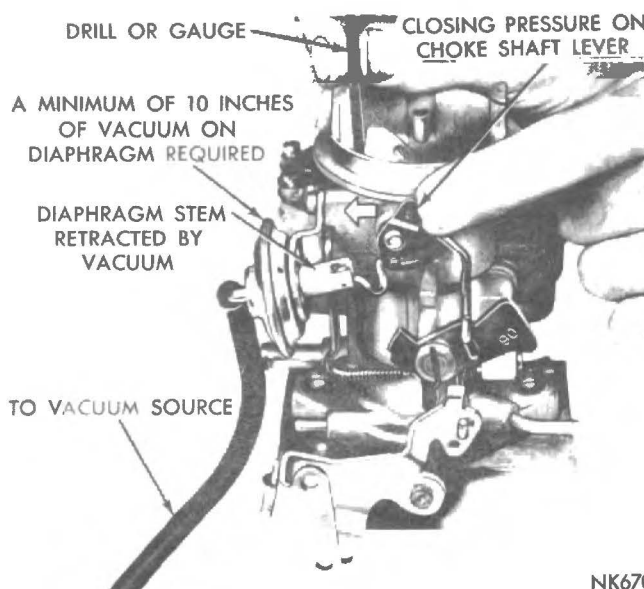

Fig. 26 - Measuring the Choke Vacuum Kick Setting.
(2) With the engine NOT running, open the throttle valve far enough to allow the choke valve to be moved to the closed position.
(3) Disconnect the vacuum hose from the diaphragm and connect the hose from the vacuum supply, as shown in Fig. 26 (a minimum of 10 inches of mercury will be required).
(4) Insert a number drill or gauge between the choke valve and the wall of the air horn while applying a light closing pressure to the choke valve (refer Fig. 26). Use a No. 6 drill, (13/64") or gauge T109-39 for R-2767A, R-2887A carburettors, and gauge T109-154 or a No. 23 drill, (5/32") for R-2768A, R-2888A carburettors.
(5) An adjustment is necessary, if a slight drag is not felt as the drill or gauge
(8) Install the choke operating link and retest the choke valve opening, using a gauge or drill (refer Fig. 26). Reinstall the vacuum hose to the diaphragm fitting and make the following test: